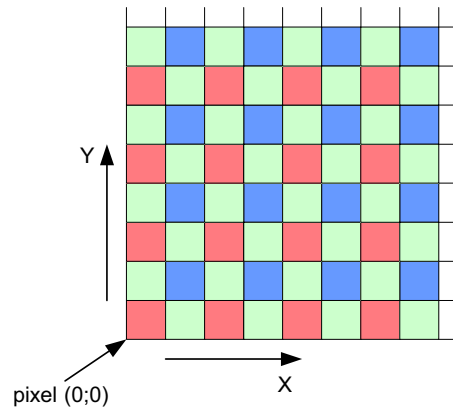

Figure 2. Color Filter Array for the Pixel Array
The VITA color micro-lens sensors (SE) are processed with a Bayer RGB color pattern as shown in Figure 2. Pixel (0,0) has a red filter situated to the bottom left.